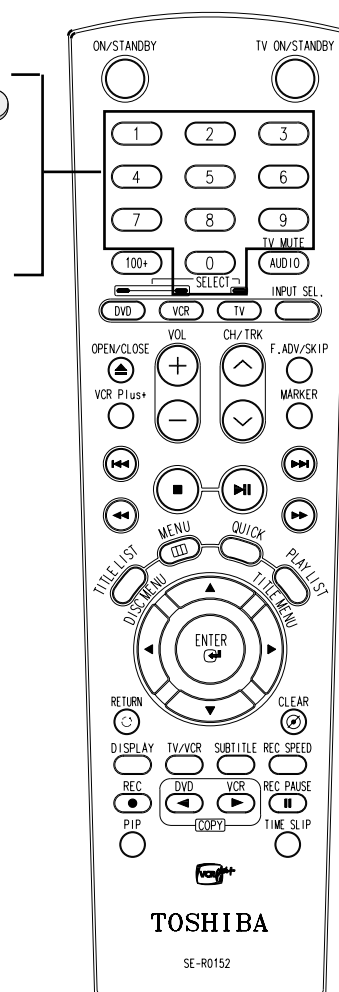

Fig. 6-1
- 3) Press the “1, 0” buttons; remote control adjustment operates automatically. (See Fig. 6-1)
- 3) Press the "0, 5" remote control buttons, then adjustment is operates automatically. (See Fig. 6-1)